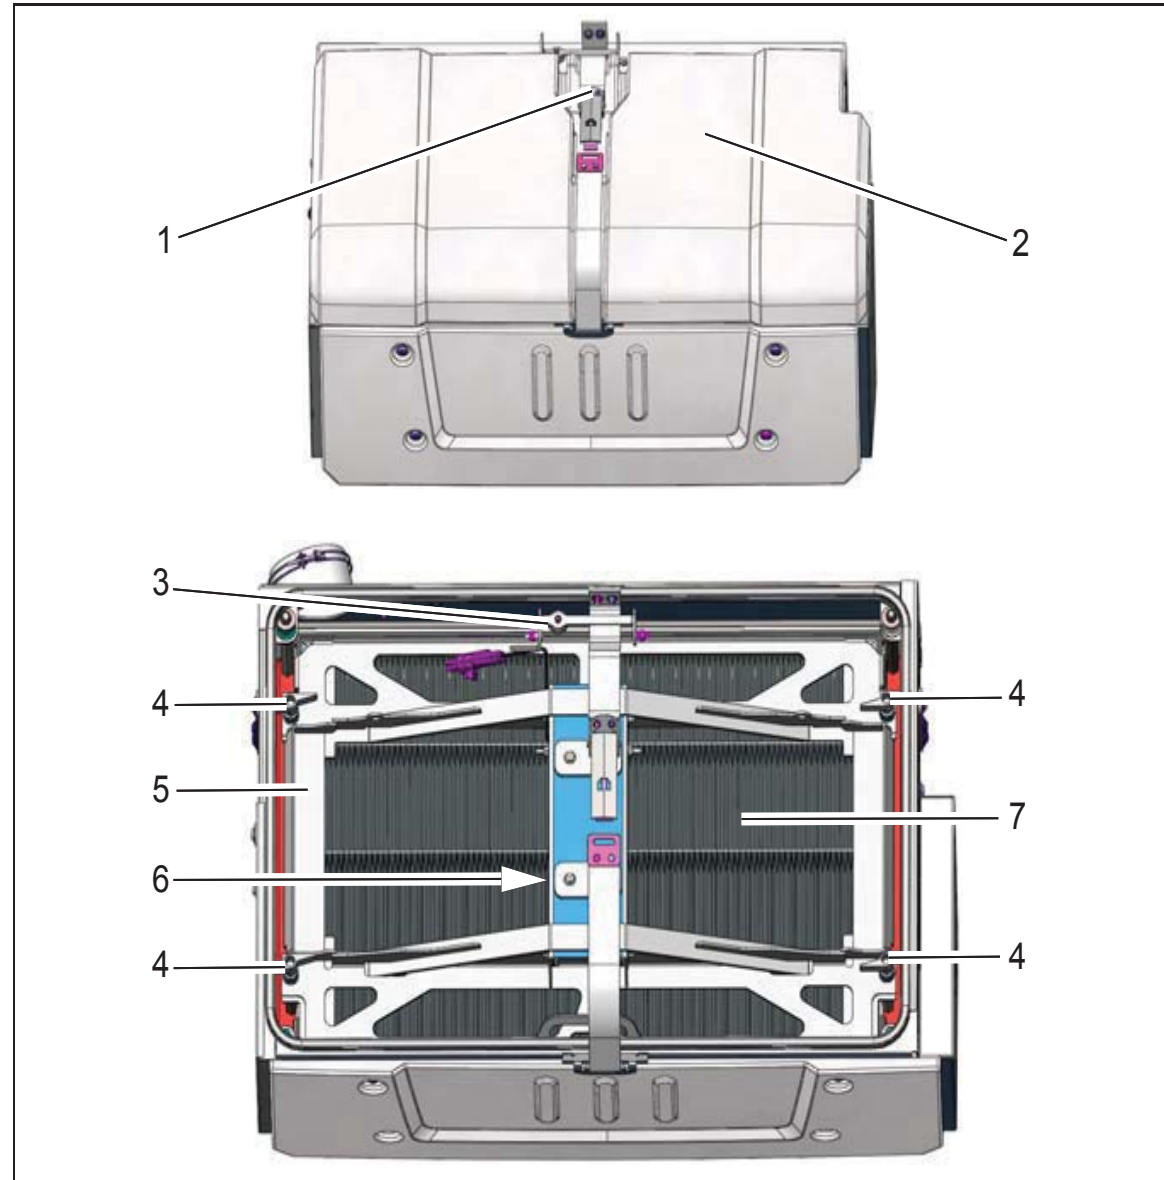

Fig.29
The dust filter (Fig. 29/7) is located under the cover (Fig. 29/2). The fine dust swirled up by the rotary brush is drawn into the filter element by the suction turbine. Check the level of dirt in the dust filter weekly.
2. Open the lock (Fig. 29/1) on the cover (Fig. 29/2).
3. Loosen the wing bolts (Fig. 29/4), pivot up the frame (Fig. 29/5) with the agitating device (Fig. 29/6) and allow it to engage in the holder (Fig. 29/3).
4. Remove the dust filter (Fig. 29/7).